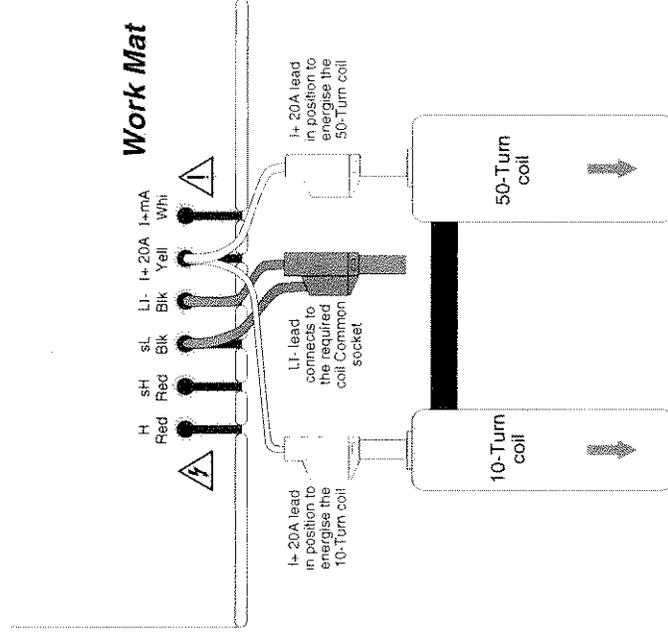

Fig. 4.5.4 Interconnections for DC High Current UUT Calibration
Option 200 comprises two coils for use with current clamps or clamp-on ammeters. Effective current step-up ratios of X10 and X 50 are selected by connections to the 10-turn and 50-turn primaries. The 9100 I+ connects to either a '10 TURN' or a '50 TURN' terminal, and the I- terminal is connected to the 'COMMON' terminal on the same coil. The sensor clamp passes through the center air space of the selected coil — manufacturers' precautions should be observed as to the positioning of the clamp within the coil — refer also to the notes with Fig 4.5.4/5/6 on page 4.5.14.
1. **Connections**    Connect the 9100 to the UUT as shown in *Fig. 4.5.2* (Normal Output), *Fig. 4.5.3* (Aux Output) or *Fig. 4.5.4* (Current Coil Output), and ensure that both instruments are powered ON and warmed up.
1. **Connections** Connect the 9100 to the UUT as shown in *Fig. 4.5.2* (Normal Output), *Fig. 4.5.3* (Aux Output) or *Fig. 4.5.4* (Current Coil Output), and ensure that both instruments are powered ON and warmed up.